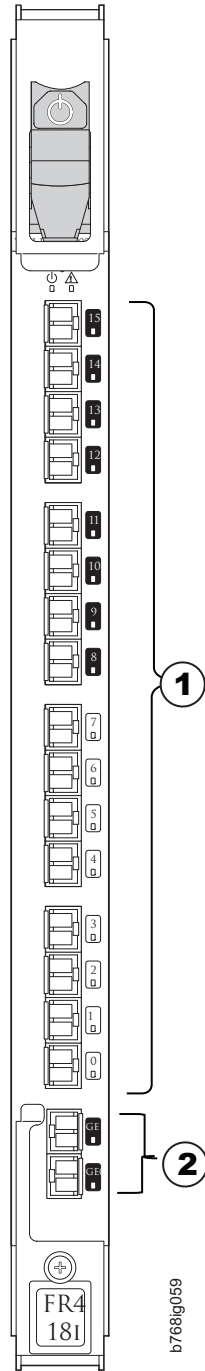

Figure 59. FR4-18i routing blade
- Figure 59 on page 171 shows an FR4-18i routing blade